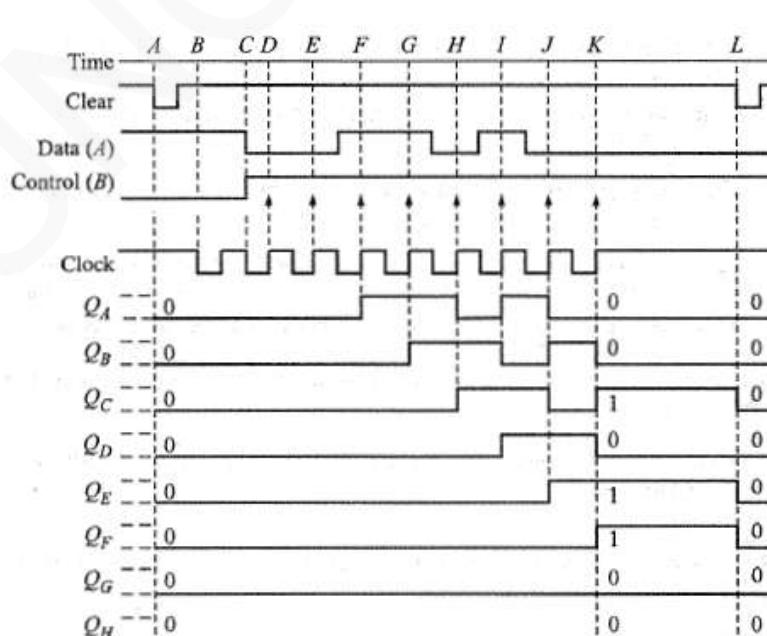

Figure 9.9:Waveform for entering data 00110100 into register
- The input-data is shifted serially into the register (Figure 9.9).